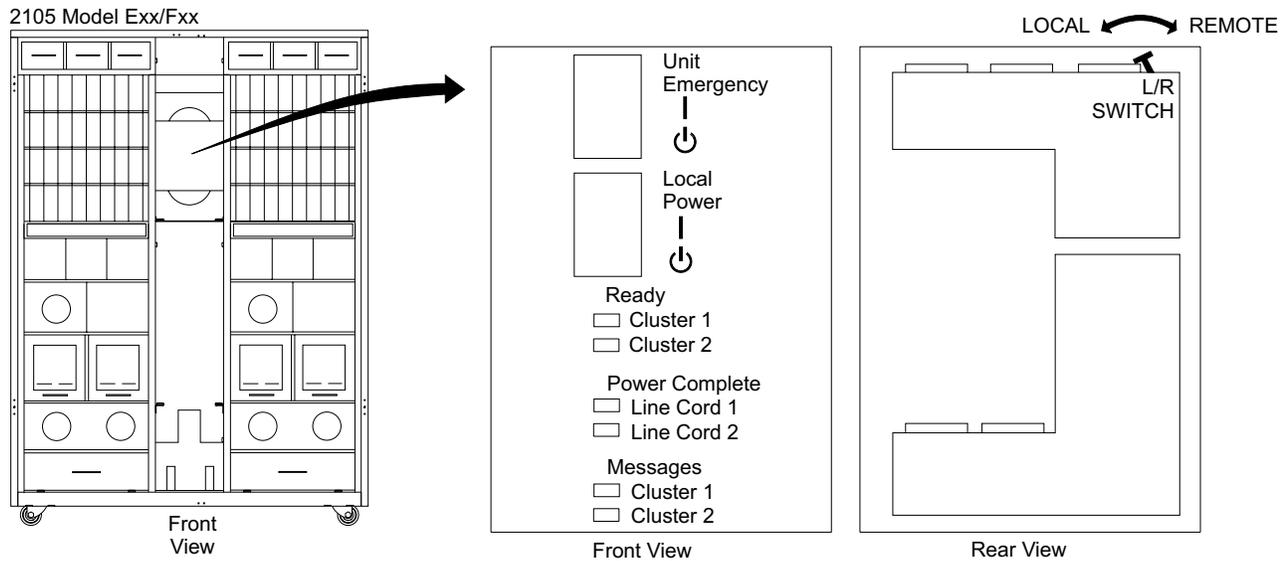

Figure 230. 2105 Model Exx/Fxx Operator Panel Locations (S008811m)
- ___ 1. Go to the front of the 2105 Model Exx/Fxx. Set the 2105 Model Exx/Fxx rack operator panel switches [Figure 230] to the positions shown in Table 13 on page 224.